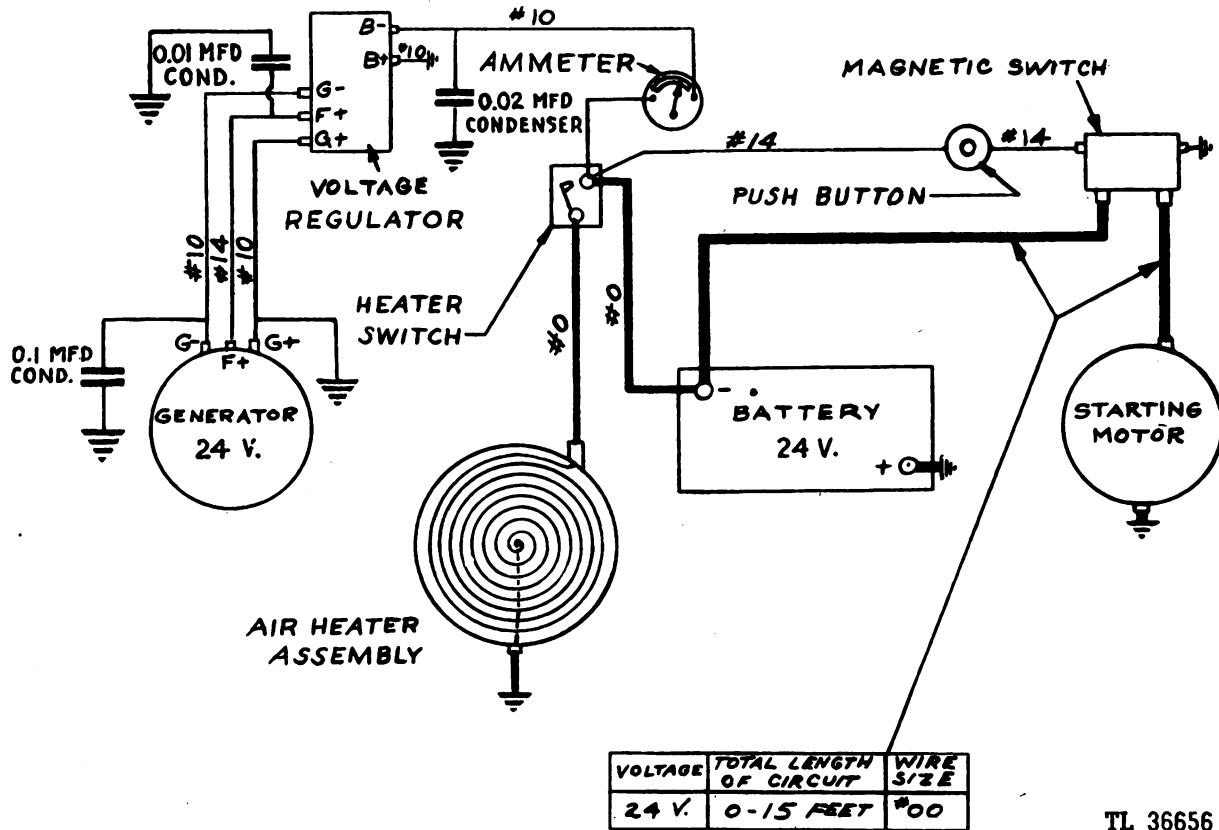

Fig. 5. Engine Wiring Diagram
**8. Electrical System.** The engine electrical system primarily furnishes the electrical energy needed to crank the engine and to preheat the intake air. The system is radio shielded to prevent radio interference. Starting or cranking is done by means of a starting motor which receives its electrical energy from the storage battery. The electrical system is of 24 volts, consisting of two 12-volt batteries connected in series with a 24-volt starting motor and generator, and with a voltage regulator which automatically decreases or increases the rate of the current flowing to the batteries, depending upon the state of charge. If the batteries are in a low state of charge, the battery charging generator output is increased; if high, the output is decreased. (See paragraph 76d, and Engine Wiring Diagram, Figure 5.)